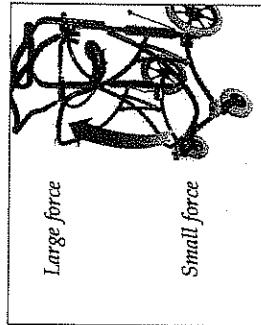

Figure 4.1
- Always hold the tilt bar securely when a user is being lifted or lowered. Especially when opening the tilt bar to lower the user, be prepared for an upwards-directed force which gradually increases as the tilt bar rises (see figure 4.1). Never let go of the tilt bar in the middle of a lifting or lowering operation, even if taken by surprise by the heavy weight effect.